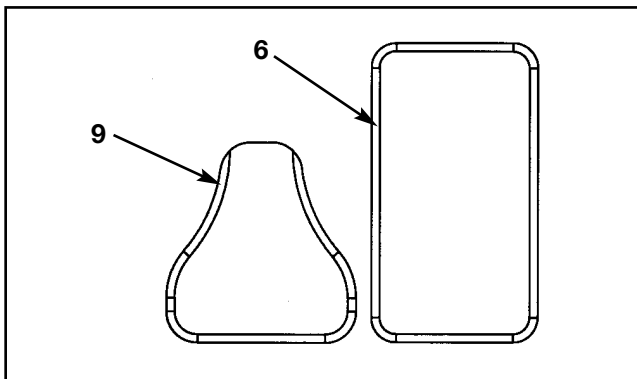

Figure 25
10. Install the back and seat cushions (see steps 10A - 10I and Figures 25 - 28).
- A. Locate the cushion box and verify the contents as shown in Figure 25.